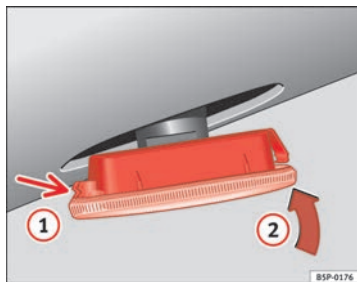

Fig. 196 Side turn signal
- First place the turn signal in the opening in the bodywork, fixing the tabs ⇒ fig. 196, arrow ①.
- Insert the bulb as shown by the arrow ② ⇒ fig. 196. ■